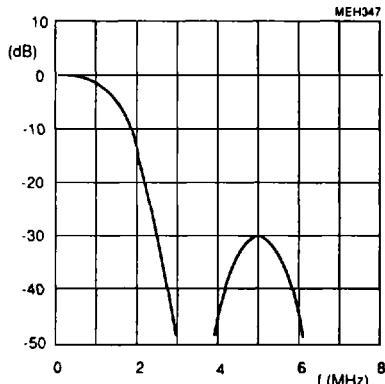
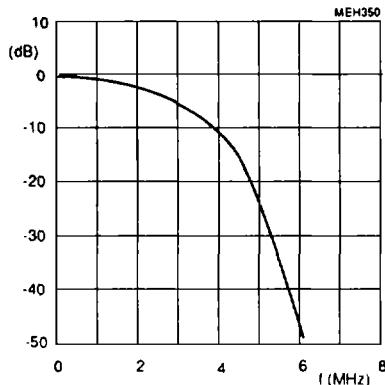

Fig.5 Overall transfer characteristics 4:1:1 input data.
Fig.8 Overall transfer characteristics 4:2:2
3. Interpolation at 13.5 MHz for 4:2:2 input data into 4:4:4 data before modulating baseband signals onto the colour subcarrier. Figures 5, 6 and 7 show the overall transfer characteristics of chrominance in "standard bandwidth condition" (SCBW = 1). Figures 8 and 9 show the overall transfer characteristics of chrominance in "enhanced bandwidth condition" (SCBW = 0), which is not possible for 4:1:1 input data. The transfer curves are slightly different at 12.27 and 14.75 MHz.